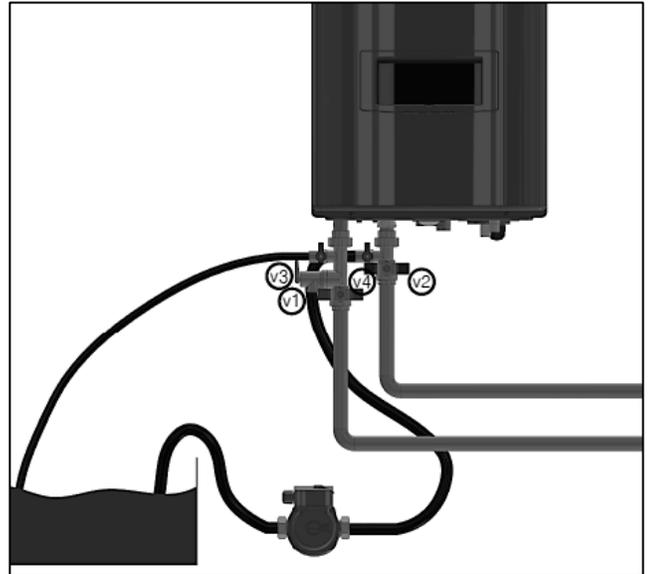

Figure 47 – Valve Detail
2. Close the shutoff valves on both CH supply and CH return lines (V1 and V2). See Figure 47.